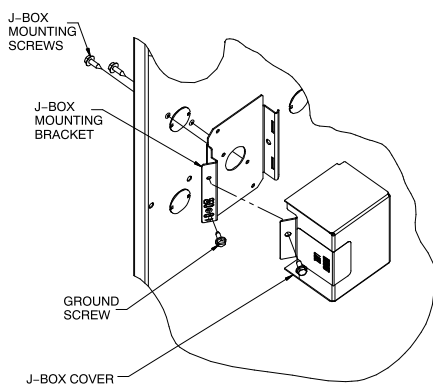

Fig. 33 – Installing J-Box (When Used)
The J-Box cover, mounting bracket and screws are shipped in the loose parts bag included with the furnace. See Fig. 33 for J-Box mounting locations.
1. Install J-Box mounting bracket to inside of furnace casing, see Fig. 33.
5. Connect field ground wire and factory ground wire to green ground screw on J-Box mounting bracket as shown in Fig. 33.
7. Attach furnace J-Box cover to mounting bracket with screws supplied in loose parts bag. Do not pinch wires between cover and bracket, see Fig. 33.
4. Connect field ground wire and factory ground wire to green ground screw on J-Box mounting bracket as shown in Fig. 33.